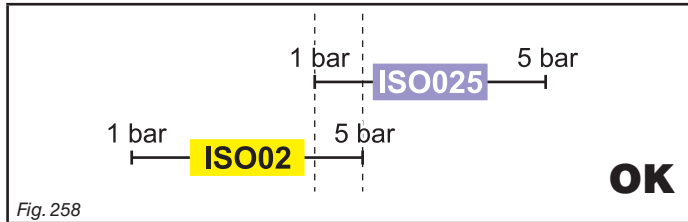

Fig. 258
- **Compatible nozzles:** the rate at 1 bar of the ISO025 nozzle is LOWER than the rate at 5 bars of the ISO02 nozzle (Fig. 258).